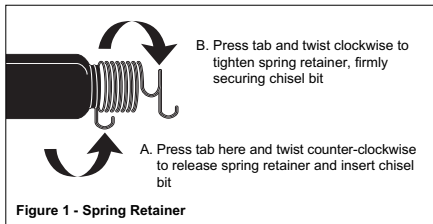

Figure 1 - Spring Retainer
The spring retainer holds the hammer in place. The retainer must be **securely** attached (See Figure 1). The retainer is a normal wear item and should be replaced when worn. Replace with SV153407AV (2) piece hammer spring set. The retainer unscrews for easy hammer insertion.